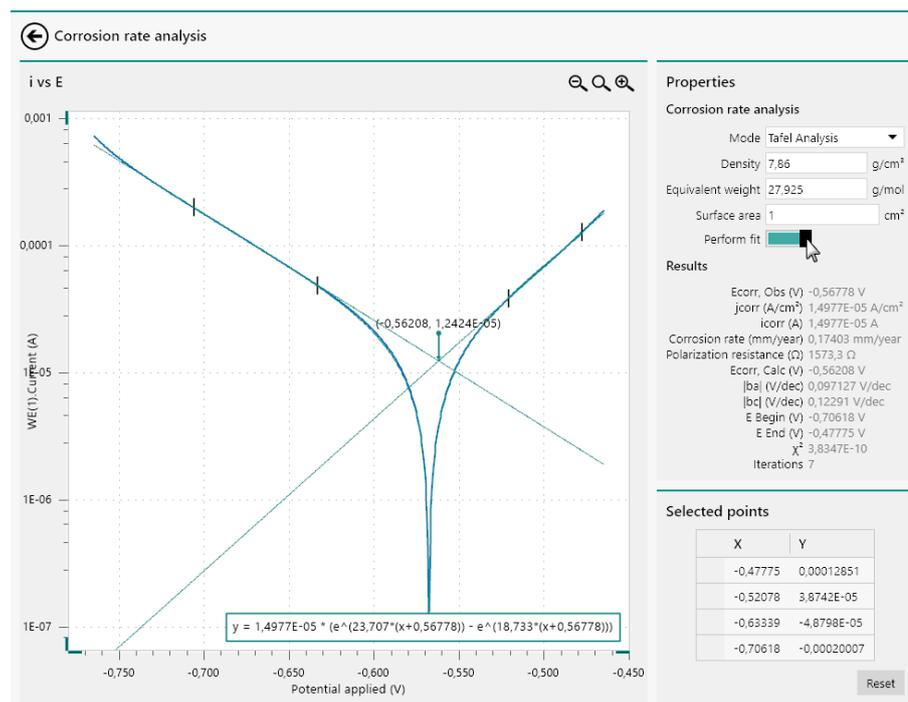

Figure 961 The measured data is fitted with the Butler-Volmer equation
2. **Perform fit on:** the intercept will be used as a starting point for the fitting of the data using the Butler-Volmer equation. The complete curve will be fitted using this equation and the corrosion data will be determined by the results of the fit. This leads to a more accurate determination of the corrosion date, as shown in Figure 961.